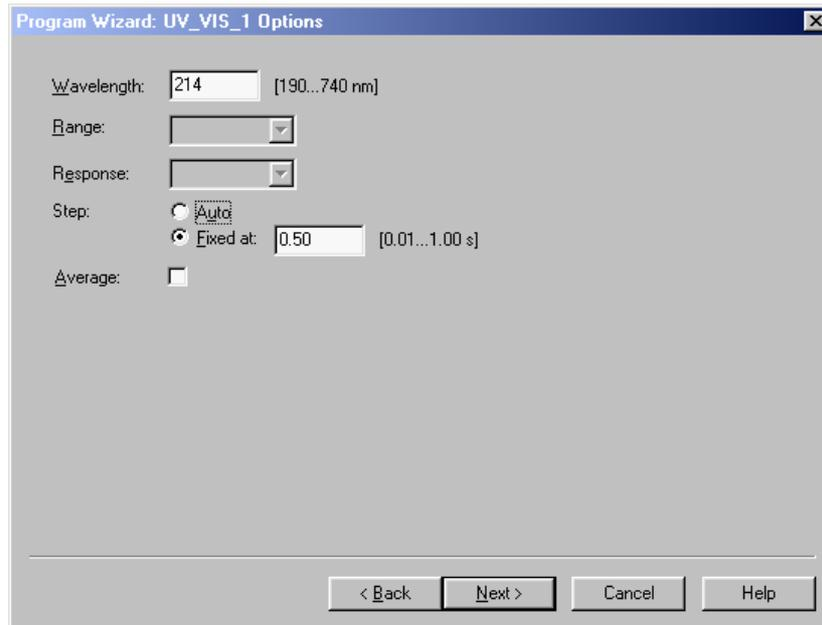

FIGURE 2-34 The UV_VIS_1 Options Box
- k) Depending on how many channels you are using the corresponding number of *UV_VIS_n Options* boxes need to be filled in to program e.g. the different wavelengths (FIGURE 2-34).